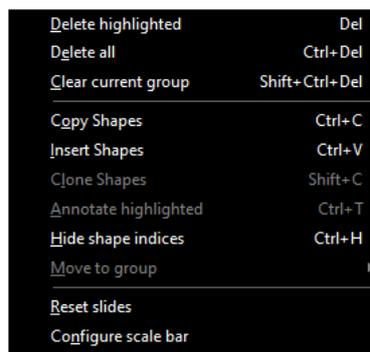

Figure 5.26: Context menu, open with the right mouse button in the image panel.
- Using the context menu (Fig. 5.26)
To delete all shapes, or all shapes from the current group, use the context menu (Fig. 5.26) or use the corresponding keyboard shortcuts *Ctrl + Del* and *Ctrl + Shift + Del*.
To start, select the shape you would like to clone and select *Clone...* from the context menu (Fig. 5.26).
Highlighted shapes can be annotated with your comments, by using the *Annotate highlighted* menu in the popup menu Fig. 5.26. A small popup window Fig. 5.28 will allow to enter the text you want to save with the highlighted shapes.
The popup menu shown in Fig. 5.26 or using the shortcut *Ctrl + H* also allows to hide the shape indices. This can be helpful if many shapes exist. In this case hiding indices also accelerates the drawing.
The popup menu shown in Fig. 5.26 also allows to move highlighted shapes into another group. This allows to correct the group assignment in case you forgot to select the correct group before drawing the shapes.
For convenience the popup menu shown in Fig. 5.26 also allows to reset slides. This means
The popup menu shown in Fig. 5.26 also allows to configure the colors and thickness of the scalebar shown in the right lower corner of the image panel.